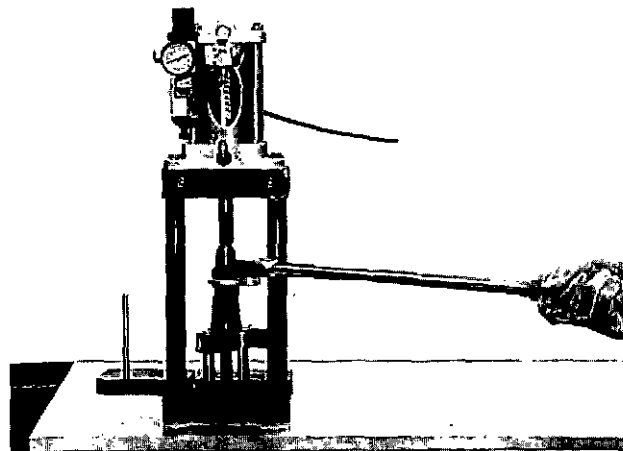

Fig. 3-18, (F60311). Torque the cup retainer-injector in ST-1298
7. Tighten the cup retainer with the ST-1072 Crows-foot Wrench and ST-995 Retainer Wrench to 55 ft-lb [75 N•m], Fig. 3-18.